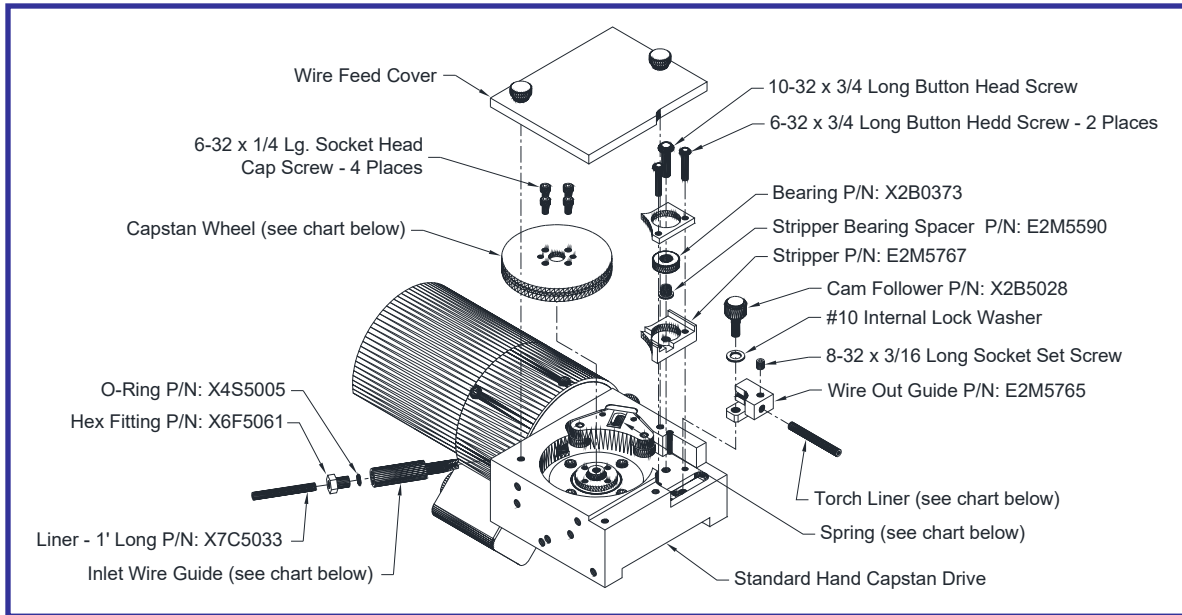

Figure 10 – 0.030" to 0.052" Aluminum Wire Straightener Standard Hand Wire Drive Configuration
- 6.1 When using an aluminum filler wire with the capstan, an Aluminum Wire Straightener Kit specifically made for each size wire must be installed on the capstan. Figure 10 and 13 show all the parts that are included in these kits. The capstan drive is not part of these kits.